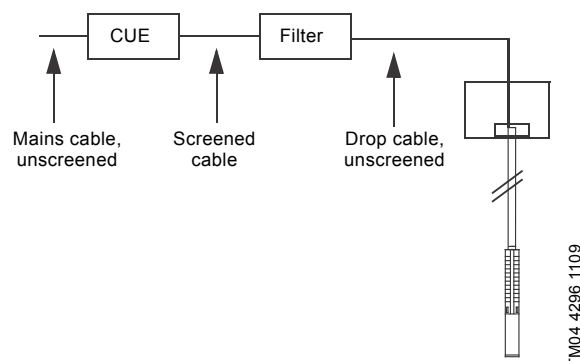

Fig. 16 Example of installation in EMC-insensitive sites
- installation in EMC-insensitive sites. See fig. 16.